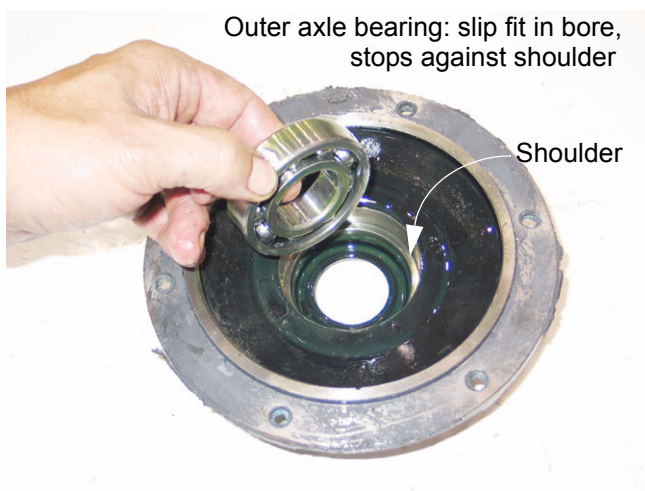

Figure 6.8
- 6.8. After the axle is separated from the bearing and cover, the bearing, and the seal that protects it may be easily removed from the cover. See Figure 6.8.